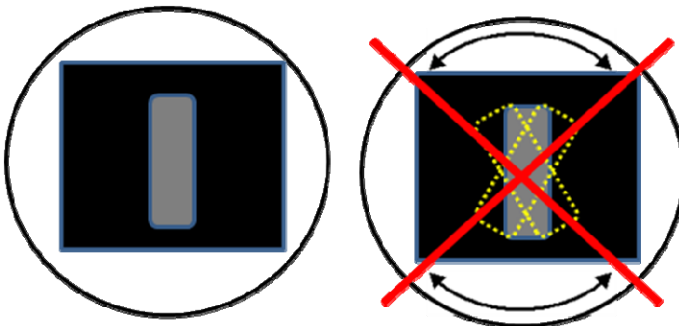

Figure 2: Turning a tire in contact with the sensor will apply shear loads to the sensor pad.
- 5. **Warning:** Do not apply shear loads the sensor pad (see Figure 2).